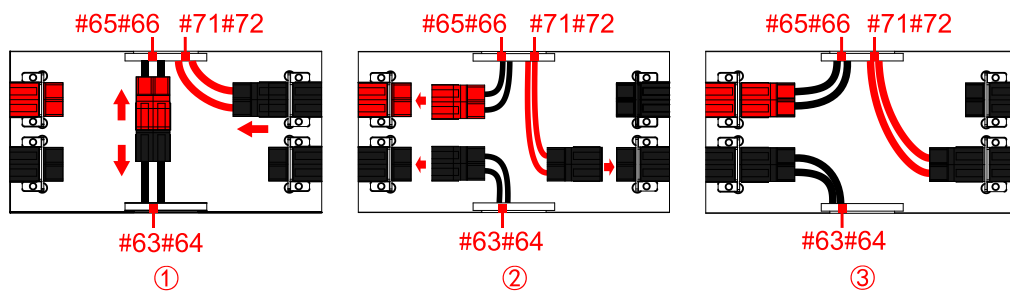
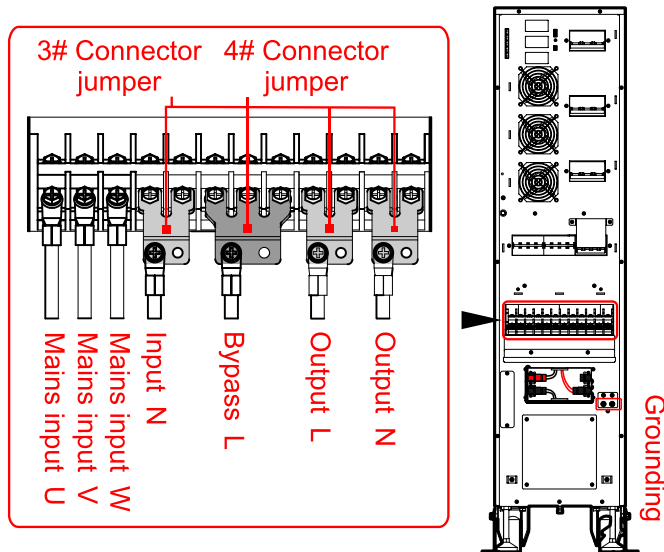

Figure3-23 Mode connector diagram of 31 mode
Figure3-24 Connector jumper and wiring terminal diagram of 31 mode
When the system of 33 mode need to be switch over the 31 mode, it is necessary to first pull out the mode connector (as shown in Figure3-23 ①), then insert it into the corresponding port (as shown in Figure3-23 ② ③). Take out three 3# connector jumper and one 4# connector jumper (3# and 4# connector jumper is optional), connect them to the wiring terminal of UPS (as shown in Figure3-24).